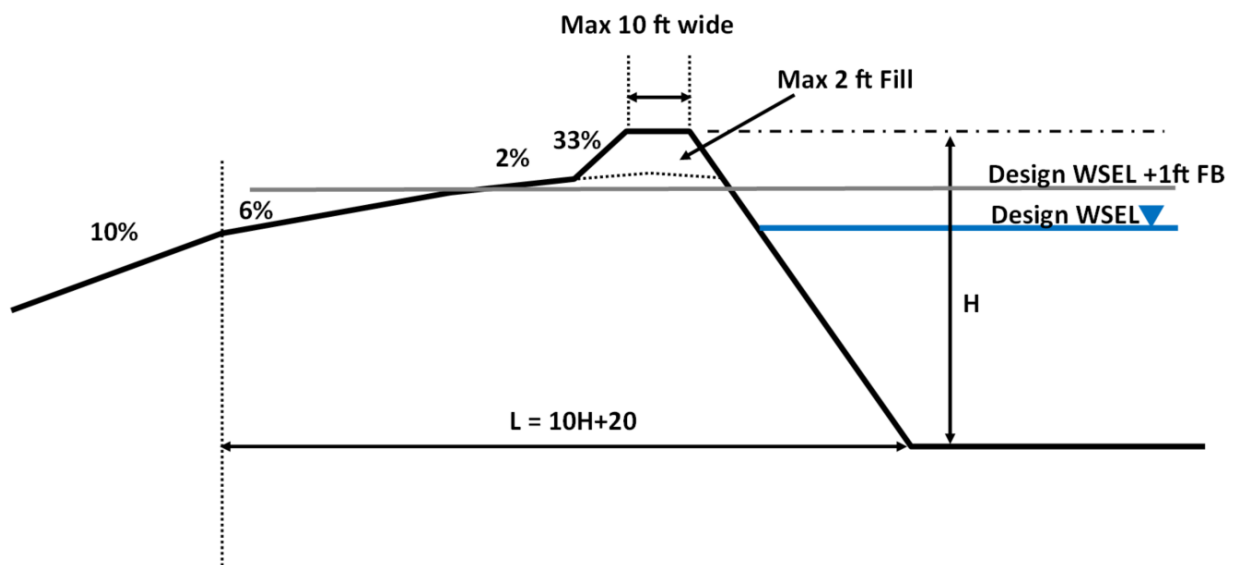

Figure 2
- The projection of L horizontally downstream from the pond bottom is below the existing or proposed ground, where  $L = 10H + 20$  and  $H$  = height from the pond bottom to the constructed top of the dam, and the existing or proposed downstream ground slope within the projection of L does not exceed 10% at any point below the design storm water surface elevation plus one foot. The configuration noted in Figure 2 intends to allow for a traditionally sloped embankment, but is limited to keep wit the intent of the criteria.